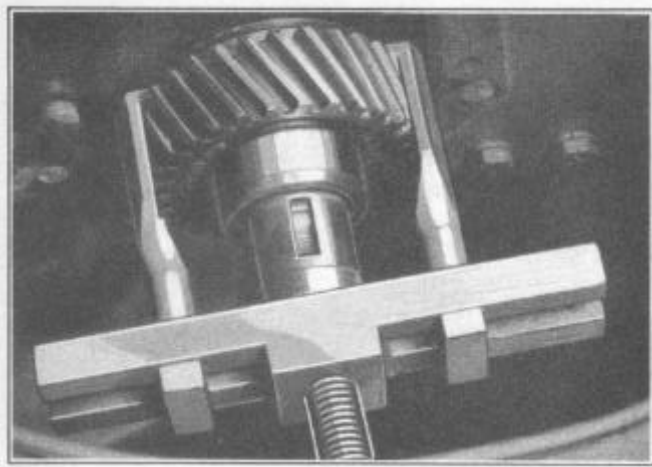

FIGURE 38
6. Using puller J-471, remove crankshaft gear, Figure 38.
2. Using Puller-471, remove crankshaft gear, Figure 38.